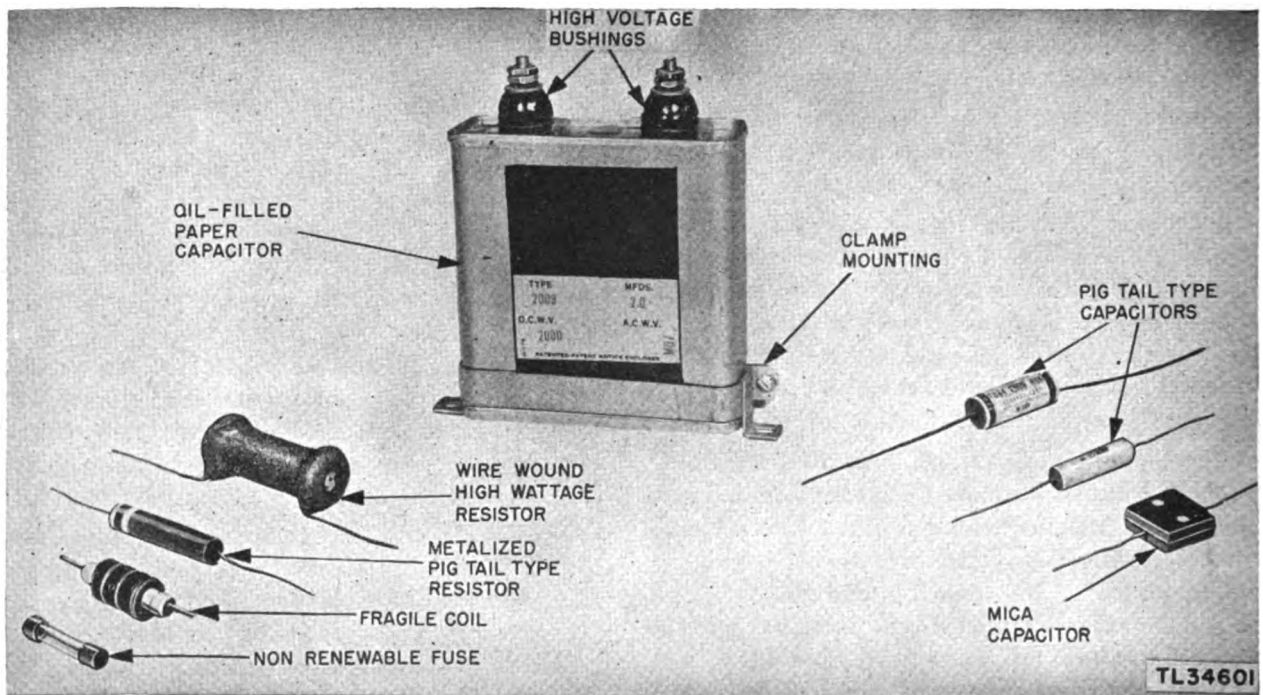

Figure 3. Resistors, capacitors, and fuse.
Figure 3 shows some of the capacitor types used. Except for the oil-filled high-voltage type, maintenance is confined to cleaning and an occasional tight-
Various types of resistors are used in the radio equipment (fig. 3). The more common type is the metalized resistor molded in plastic. These are widely used in low-voltage circuits where heat dissipation is not great. Another type is the vitreous enameled resistor with a hard ceramic coating baked on the resistance element. The connections to the various resistors are made in several ways, the most common of which is by the use of pigtails, in which the conducting lead enters the body of the resistor.
a. **GENERAL.** (1) Fuses are small strips of metal with a low melting point. They are inserted in series with an electrical circuit to open the circuit when the amount of current in the circuit exceeds a safe value. Such fuses protect equipment against electrical overload and damage. The type of fuse used in Radio Equipments RC-182-A and RC-282-A is nonrenewable. When *blown* it must be replaced. When a fuse blows, an effort should be made to discover the reason for the failure and to make corrections, if possible, before a new fuse is installed. A black spot on the glass of a burned-out fuse may be noticed.
(2) Nonrenewable or one-time fuses (fig. 3) are